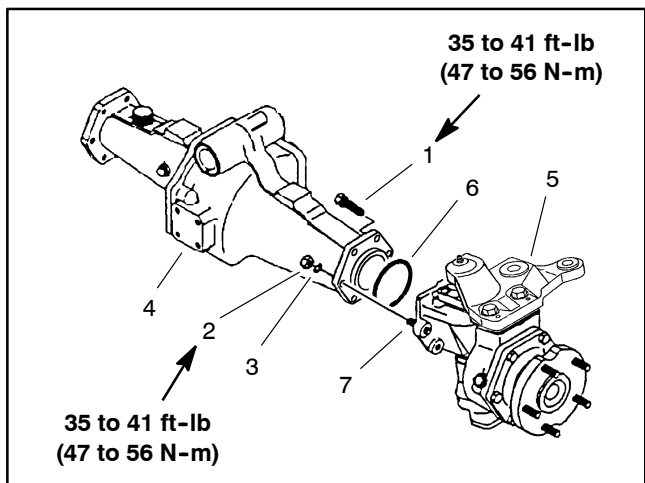

Figure 30
12. Coat a new O-ring with grease and install the bevel gear case/axle case assembly on the axle support. Tighten mounting screws and nuts from **35 to 41 ft-lb (47 to 56 N-m)** (Fig. 30).
1. Remove the mounting screws, nuts and lock washers. Remove the bevel gear case/axle case assembly and O-ring from the axle support (Fig. 30).